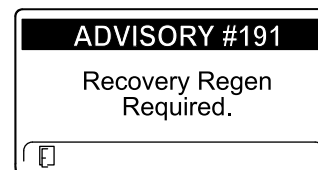

Figure 47
- Recovery regeneration required—power takeoff disabled ADVISORY #191 (Figure 47)